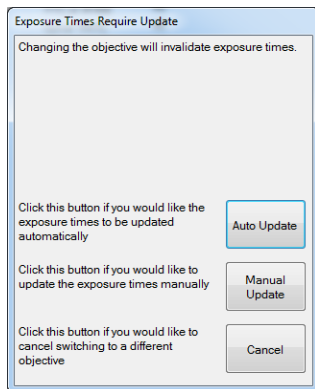

Figure 32. Warning window appears if you change the pixel resolution.
- If the Multispectral Regions resolution is changed, the same **Exposure Times Require Update** box shown in Figure 32 will appear and you will be required to choose how to adjust the exposure times.